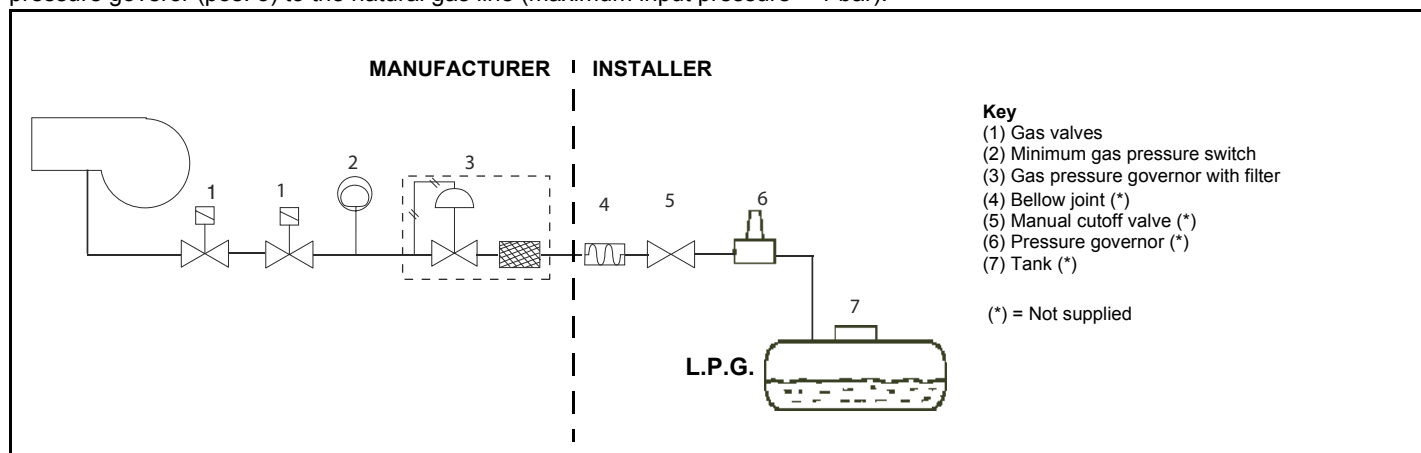

Fig. 3
**DANGER!** Incorrect motor rotation can seriously damage property and injure people. **ATTENTION:** once the gas train is mounted according to the diagram on Fig. 3, the gas proving test must be performed, according to the procedure set by the laws in force.